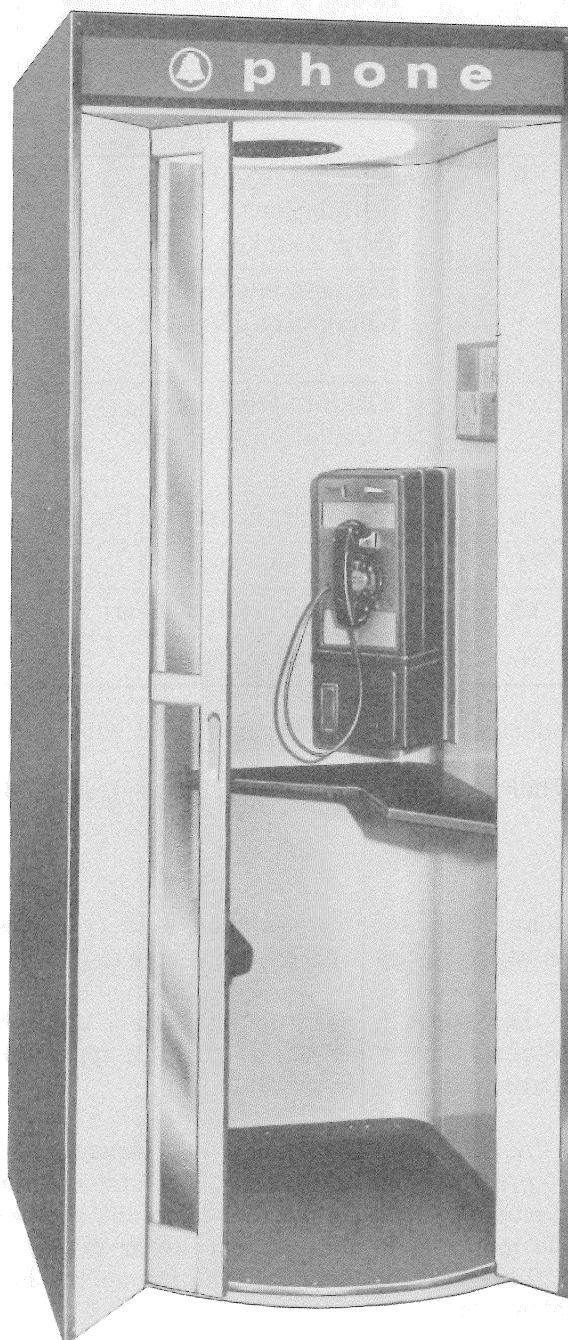

Fig. 1—KS-19206 Curved Door Booth
1.02 The KS-19206 curved door booth (Fig. 1), is made of steel. A mastic sound deadening material is placed between the outside steel walls and inside steel liners.